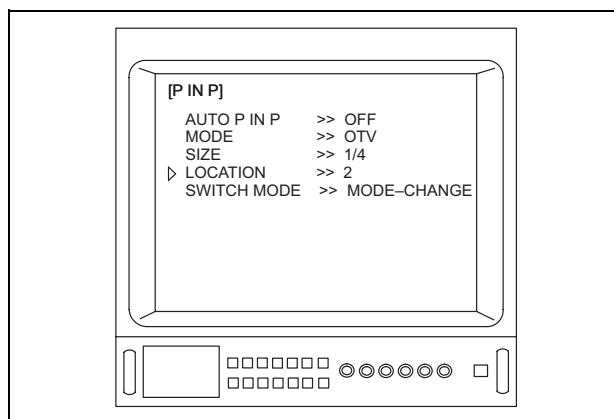

Figure 5.125
6. Depress the menu switches “◀” or “▶”, or the “↑/↓/←/→” key on the keyboard to move the arrow “▷” to “LOCATION” (see Figure 5.125).
Depending upon the OTV-S7V's settings, the menus shown in Figures 5.125 and/or 5.126 may appear different from those displayed on the video monitor.